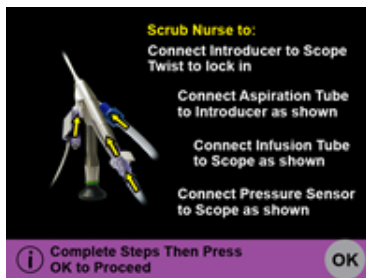

Figure 16
Fluid Management Accessories set up instructions will appear on the Controller screen (Fig. 16).
**SCRUB NURSE** – Follow the Fluid Management Accessories set up instructions on the Controller screen (Fig. 16).
**CIRCULATING NURSE** – When step 4 is completed, press OK on the Controller Screen (Fig. 16).